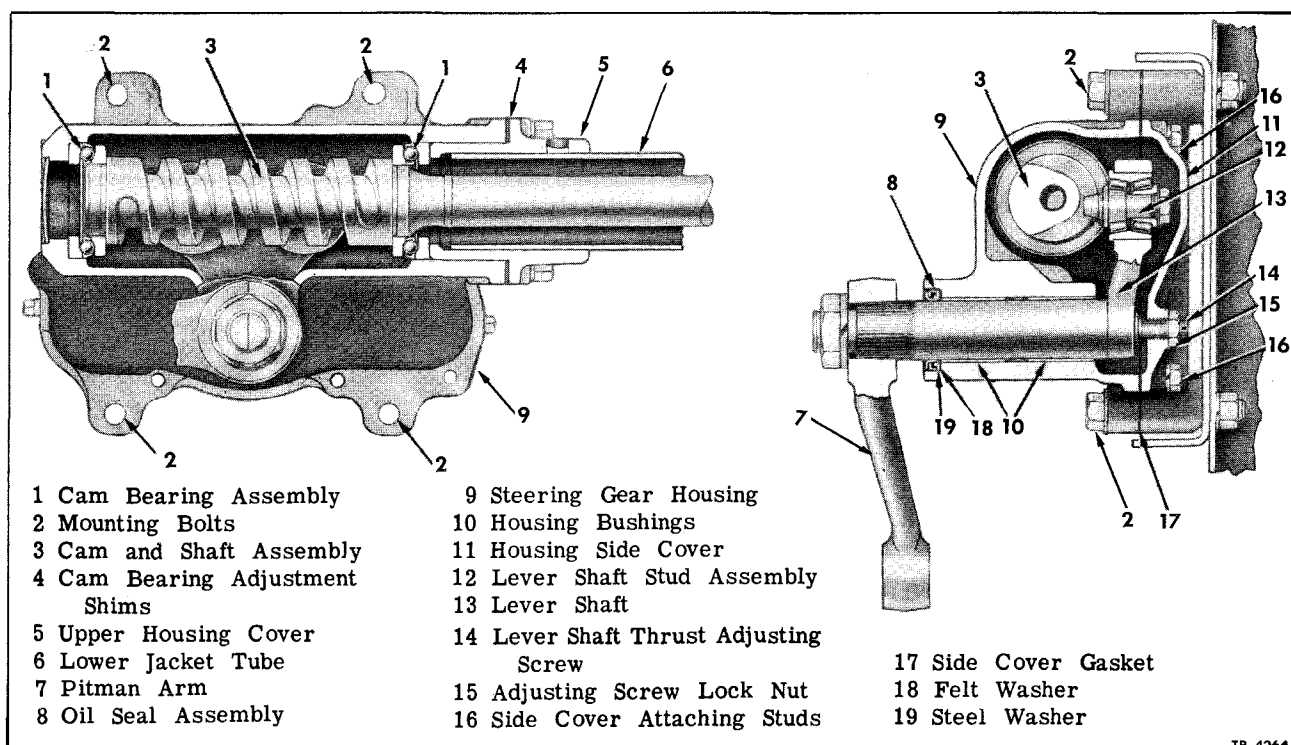

Figure 5—Steering Gear Assembly
Prior to disassembly operations, make sure that steering gear, work bench, and tools are clean. Steering gear parts must be kept clean. When mounting steering gear in vise or other holding fixture, do not grip housing too tightly or housing may be damaged. Refer to figures 5 and 6 for information.
CLEANING AND INSPECTION (Figs. 5 and 6)
7. Insert lever shaft in gear housing and check clearance between shaft and housing bushings. If clearance is excessive and diameter of lever shaft is within limits given in "Specifications" at end of this section, bushings should be replaced. When installing new bushings, press bushings into housing until positioned as shown in figure 5.
Assembly of steering gear parts must not be attempted in dirty surroundings. Parts must be kept absolutely clean, since even small particles of dirt in working parts of steering gear can cause excessive wear. Referring to figures 5 and 6, assemble steering gear as follows: